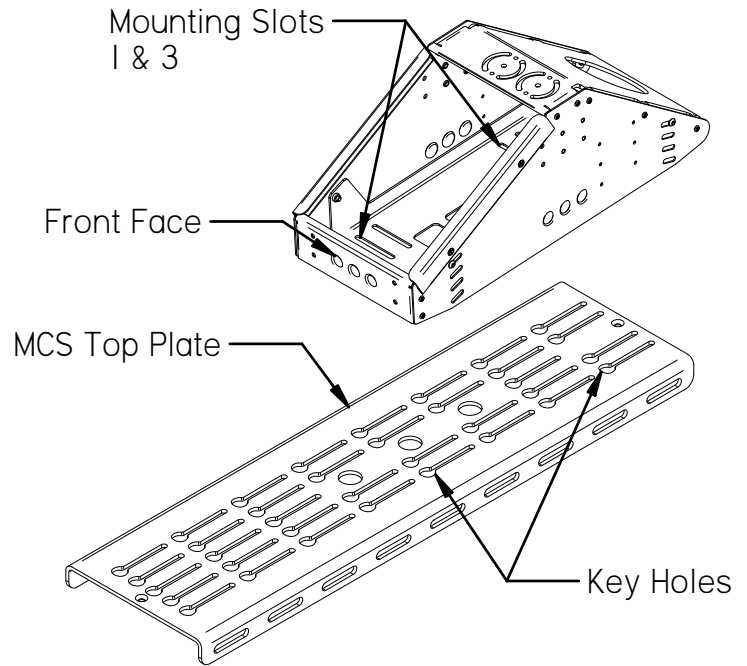

Figure 1: Align mounting slots with key holes.
1. When installing the MCS-Ergo-Hybrid console box onto a Gamber-Johnson MCS Top Plate, insert and loosely assemble four 1/4-20 carriage bolts, four 1/4" Dia. washers, four 1/4" lock washers, and four 1/4-20 hex nuts about the desired mounting slots in the bottom of the box (see **Figure 1**). Slots one and three from the front of the box will align with the key holes in the Top Plate. Slots two and four will also align with the key holes in the Top Plate. Orient the head of the carriage bolts below the box.
2. Insert the four heads of the carriage bolts into the desired corresponding key holes (see **Figure 1**) on the MCS-Top Plate until the bolt heads drop below the Top Plate. Place box in desired position and tighten hardware.
ASSEMBLING MCS FACEPLATES: (Refer to figure 1)
- (1) 6-32 nut
2. For each faceplate, slide the faceplate vertical offset (item 1) on the stud in faceplate top bracket (item 2). Add flat washer (item 3) and hex nut (item 4). Remove the extra strips of dual lock fastener pressed onto each console box under holddown rails, cut to same length as each faceplate, remove protective film covering the adhesive strip and apply to top bracket as shown.
3. If the faceplates are being mounted in an older style MCS Console Box (those with threaded inserts on the top surface of the side panels/holddown screws passing through slots in existing face plates or blank panels), DO NOT attach the strip of dual lock fastener on each faceplate as described above. When installing faceplates into these MCS Console Boxes, mark any that cover the threaded inserts and drill a .312 diameter clearance hole as shown in Figure 1.